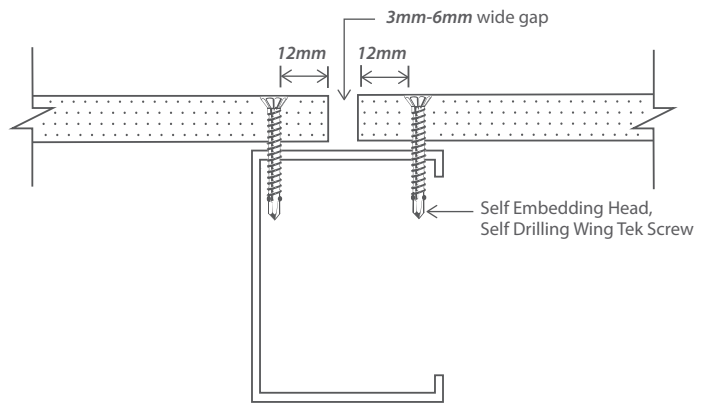

Figure 2.5: Exposed Joint
2. An expressed joint may be formed by providing **3 to 6mm** gap between **PRIMAflex™** sheets. See **Figure 2.5**.